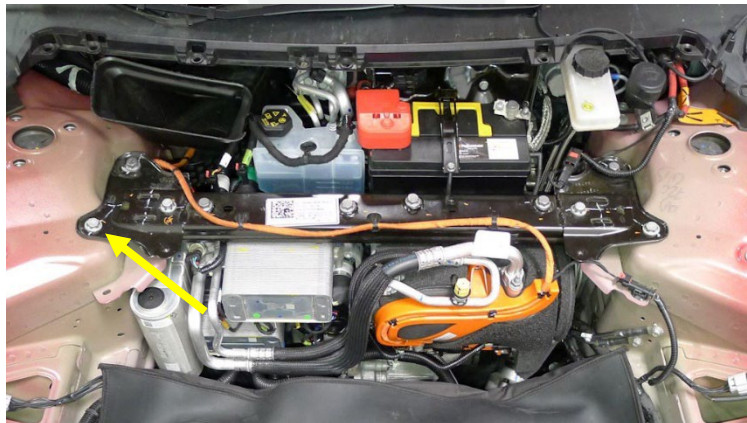

Figure 2
5. Loosen the forward RH shock tower brace bolt (Figure 2).